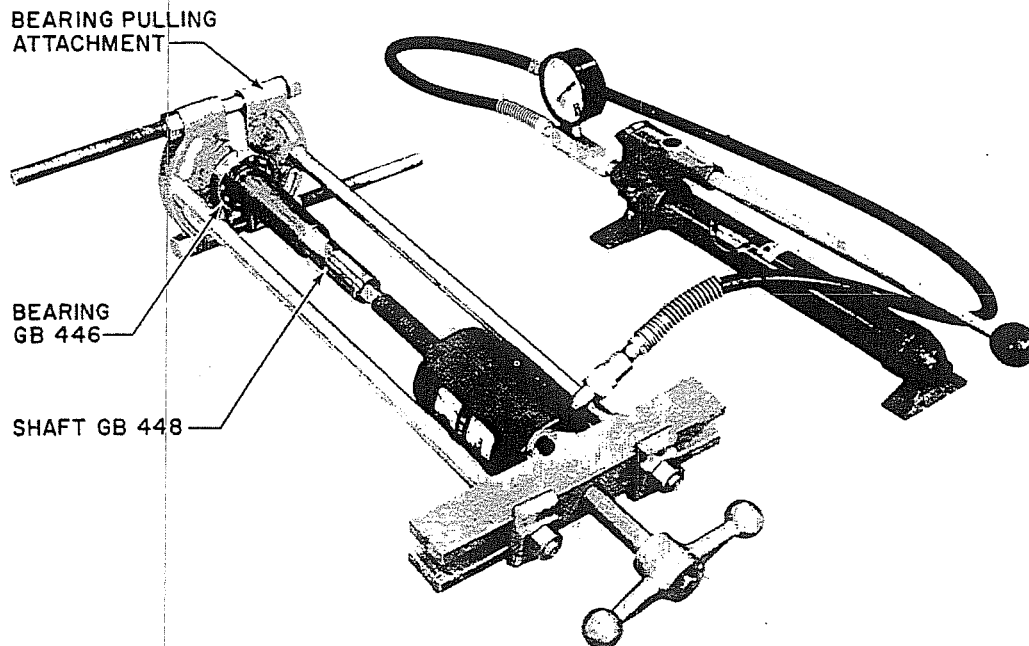

Figure 12. 4 to 1 Shaft, Installation of Bearing GB446
- H. Secure the bearing pulling attachment behind the inner race of Bearing GB446 and apply pressure to the shaft (figure 12). The shaft should be cleaned and lubricated prior to installing the bearing.